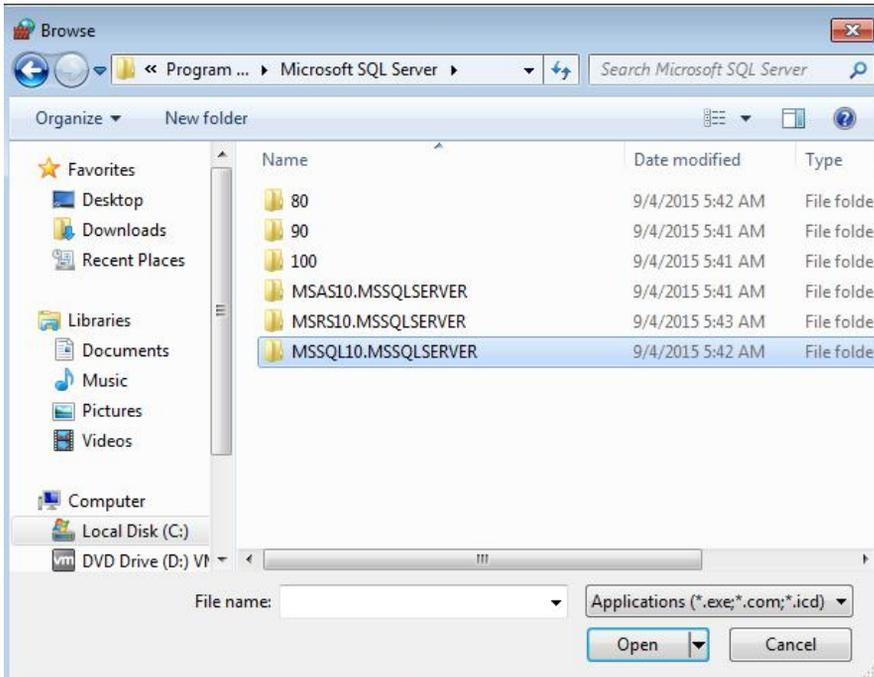

Fig.1.21 Microsoft SQL Server
(8) Open "MSSQL10.MSSQLSERVER" folder (see Fig.1.21).